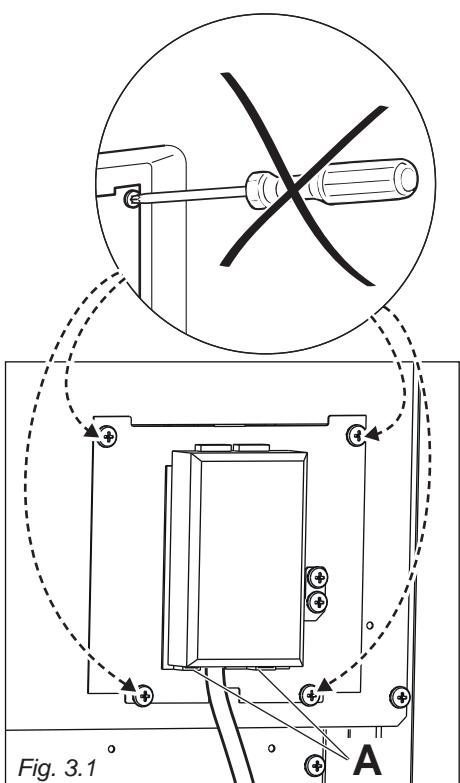

Fig. 3.1
- Remove the screws that holds shield "A" behind the cooker (fig. 3.1).